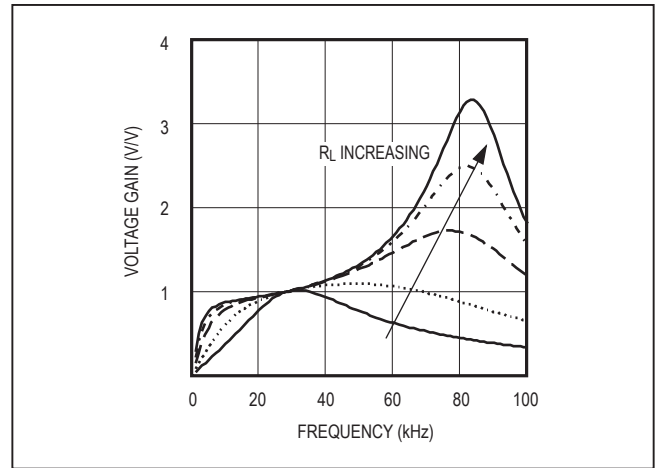

Figure 8. Frequency Response of the Resonant Tank
Figure 8 shows the frequency response of the resonant tank's voltage gain under different load conditions. The primary series capacitor is 1μF, the secondary parallel capacitor is 15pF, the transformer turns ratio is 1:78, and the secondary leakage inductance is 260mH. Notice that there are two peaks, f_S and f_P , in the frequency response. The first peak, f_S , is the series resonant peak determined by the secondary leakage inductance (L) and the series capacitor reflected to the secondary (C'_S):